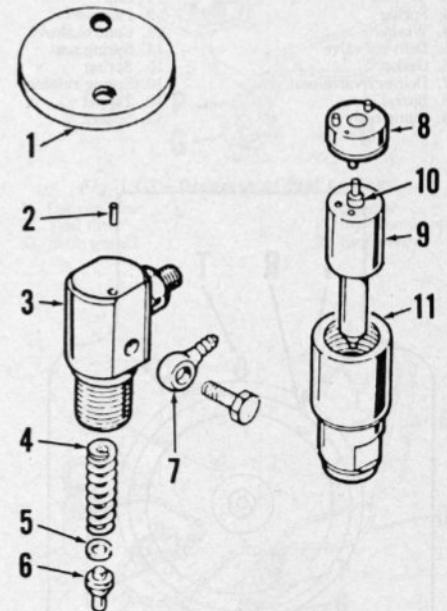

Fig. L1-10—Exploded view of injector.
REMOVE AND REINSTALL. To remove injector, first clean dirt from injector, injection line, return line and cylinder head. Disconnect return line and injection line and immediately cap or plug all openings. Unscrew retainer plate nuts and lift off retainer plate (1—Fig. L1-10) being careful not to lose dowel pin (2). Injector may now be carefully removed from cylinder head. Do not lose shims between injector and cylinder head.
Opening pressure with a new spring (4—Fig. L1-10) should be 20.5-22.5 MPa while opening pressure with a used spring should be 19.6-21.5 MPa. Opening pressure is adjusted by varying number and thickness of shims (5). Valve should not show leakage at orifice spray holes for 10 seconds at 17.6 MPa.
OVERHAUL. Clamp nozzle body (3—Fig. L1-10) in a vise with nozzle tip pointing upward. Remove nozzle holder nut (11). Remove nozzle tip (9) with valve (10) and spacer (8). Invert nozzle body (3) and remove spring seat (6), shim (5) and spring (4). Thoroughly clean all parts in a suitable solvent. Clean inside orifice end of nozzle tip with a wooden cleaning stick. The 0.20 mm diameter orifice spray holes may be cleaned by inserting a cleaning wire slightly smaller than spray hole. When reassembling injector, make certain all components are clean and wet with clean diesel fuel oil. Tighten nozzle holder nut (11) to 60-90 N·m.